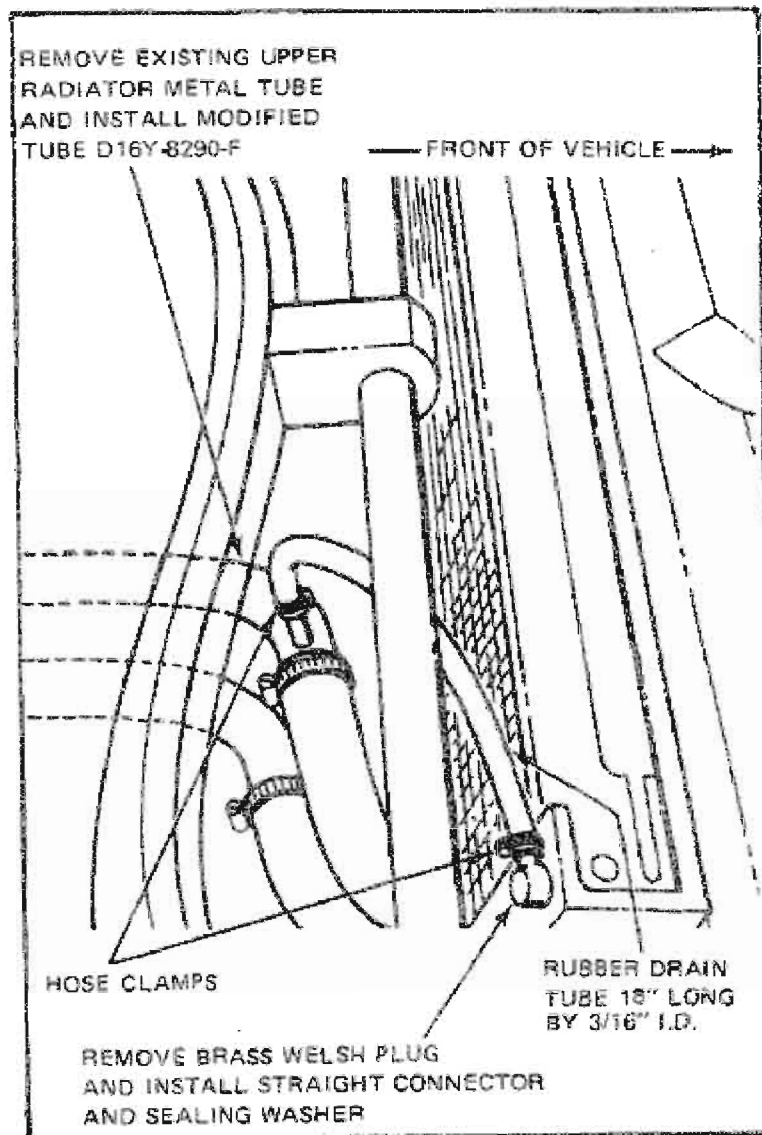

Fig. 3 - Article 19
2. Remove the upper radiator metal tube (radiator to water pump) and install a modified tube, Part Number D16Y-8290-F, which incorporates a drain tube connection (see Fig. 3).
If air continues to accumulate in the cooling system after the above procedures were performed, it may be necessary to relocate the radiator bleed hose from the lower return pipe (Fig. 3) as described in T.S.B. No. 3, Article 19, dated 9/1/73, back to the radiator supply tank as follows: